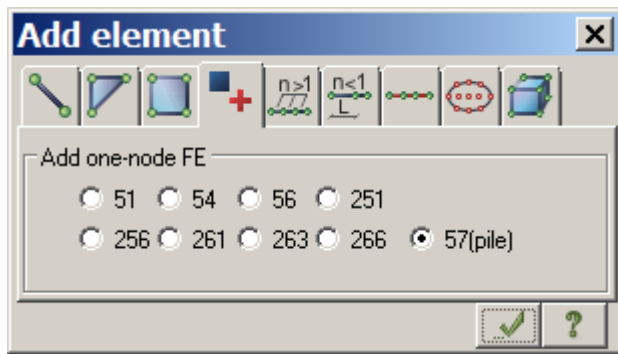

Figure 22.8 Add element dialog box
- ⇒ The **Add element** dialog box is presented with the **Add one-node FE** tab open (see Fig.22.8).